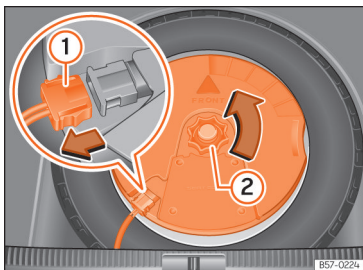

Fig. 219 In the boot: remove the subwoofer.
- Disconnect the subwoofer's speaker cable >>> **Fig. 219 ①**.
- Turn the securing wheel anti-clockwise >>> **Fig. 219 ②**.